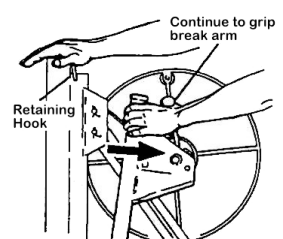

Figure 4
- c) Place your right hand on top of the frame. Continue to grip the brake arm as needed to prevent cable backlash, and pull the winch assembly all the way toward you. (Figure 4)